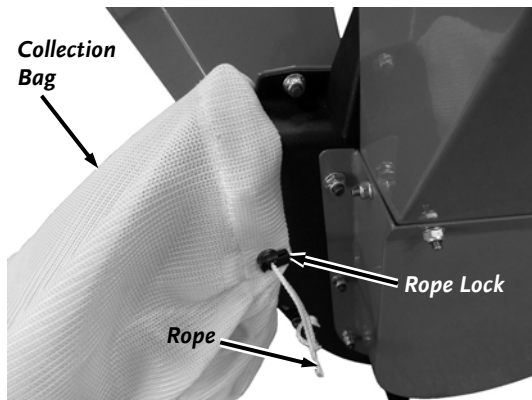

Figure 16
2. Cinch the bag tightly by squeezing the locking Button and pushing it against the machine as you pull the String. Release the Button to secure the Bag (**Figure 16**).